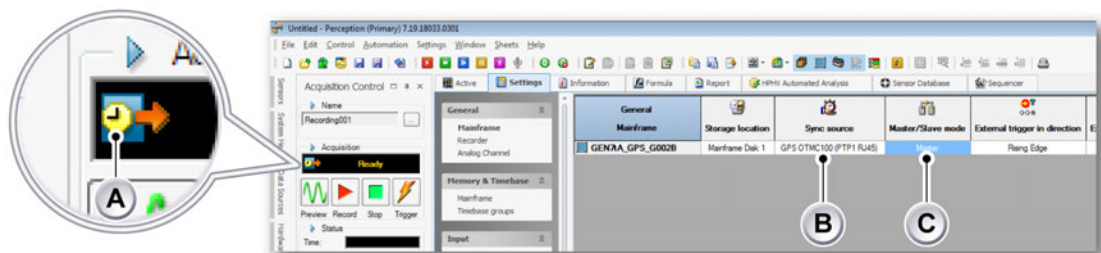

Figure 14.24: Settings for Master/Slave mode to Master in Perception
- 3 Set the Master/Slave mode to Master for the mainframe connected to the GPS (see Figure 14.24).